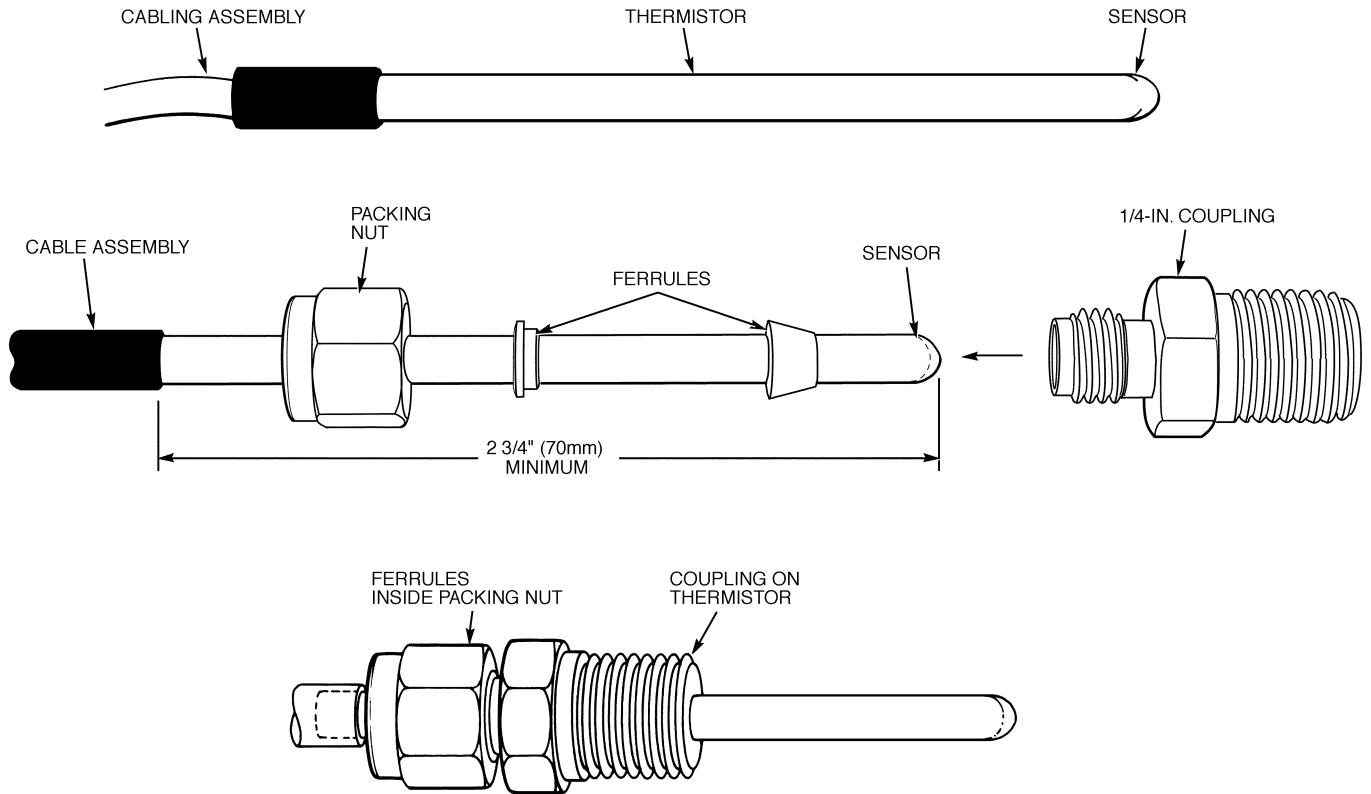

Fig. 22 — Thermistor
Proceed as follows (see Fig. 22):
2. Apply pipe sealant to 1/4-in. NPT threads on replacement coupling and install in place of original. Do not use a packing nut to tighten coupling. This damages the ferrules (see Fig. 22).